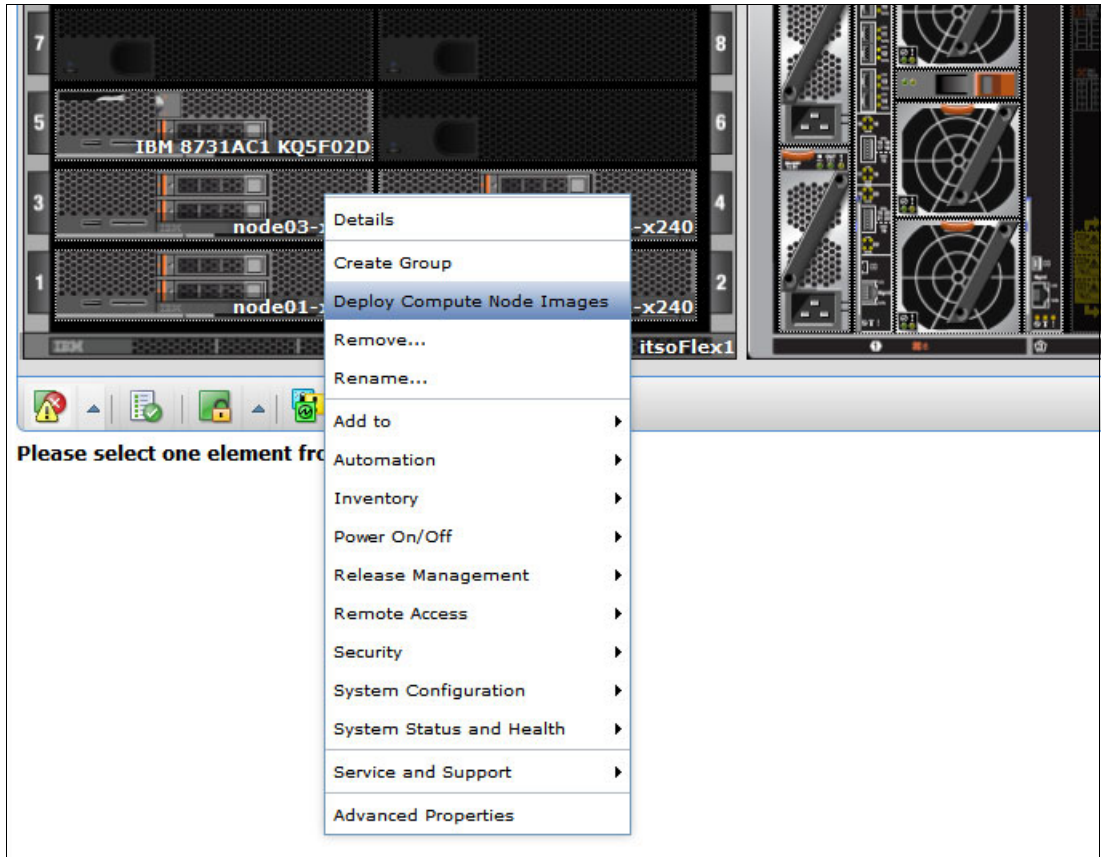

Figure 6-58 Chassis Map: Deploy Compute Node Images
- ▶ In the Chassis Map view, right-click the compute node and select **Deploy Compute Node Images**, as shown in Figure 6-58.